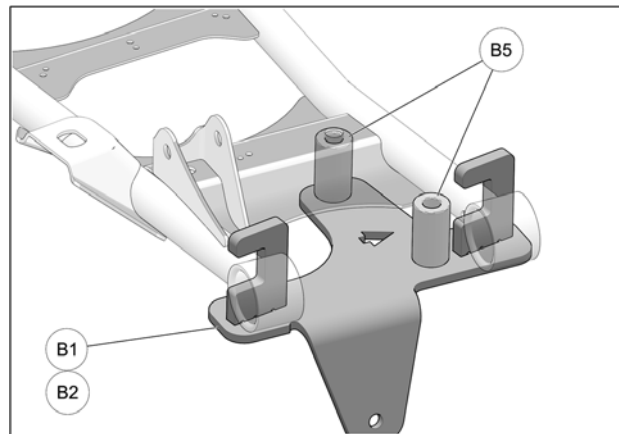

Fig. 4
4. Install spacer bushings (B5) between anchor bracket (B1-B2) and suspension arm. Align spacer bushings and bolt holes in bracket. See Fig. 4